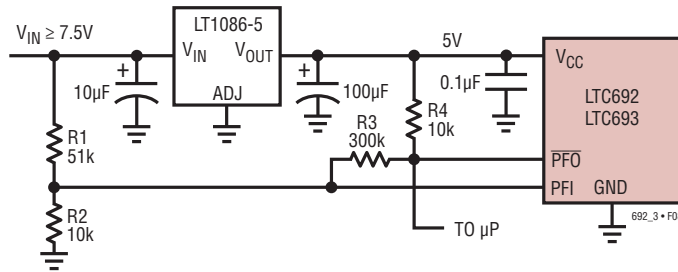

Figure 8. Monitoring *Unregulated* DC Supply with the LTC692/LTC693 Power-Fail Comparator
The LTC692/LTC693 generate a power failure output ( $\overline{\text{PFO}}$ ) for early warning of failure in the microprocessor's power supply. This is accomplished by comparing the power failure input (PFI) with an internal 1.3V reference.  $\overline{\text{PFO}}$  goes low when the voltage at the PFI pin is less than 1.3V. Typically PFI is driven by an external voltage divider (R1 and R2 in Figures 8 and 9) which senses either an unregulated DC input or a regulated 5V output. The voltage divider ratio can be chosen such that the voltage at the PFI pin falls below 1.3V, several milliseconds before the 5V supply falls below the maximum reset voltage threshold of 4.50V.  $\overline{\text{PFO}}$  is normally used to interrupt the microprocessor to execute shutdown procedure between  $\overline{\text{PFO}}$  and  $\overline{\text{RESET}}$  or RESET.
The power-fail comparator, C3, does not have hysteresis. Hysteresis can be added however, by connecting a resistor between the  $\overline{\text{PFO}}$  output and the noninverting PFI input pin as shown in Figures 8 and 9. The upper and lower trip points in the comparator are established as follows:
**Example 1:** The circuit in Figure 8 demonstrates the use of the power-fail comparator to monitor the unregulated power supply input. Assuming the the rate of decay of the supply input  $V_{IN}$  is 100mV/ms and the total time to execute a shutdown procedure is 8ms. Also, the noise of  $V_{IN}$  is 200mV. With these assumptions in mind, we can reasonably set  $V_L = 7.25V$  which is 1.25V greater than the sum of maximum reset voltage threshold and the dropout voltage of LT®1086-5 (4.5V + 1.5V) and  $V_{HYSTERESIS} = 850mV$ .